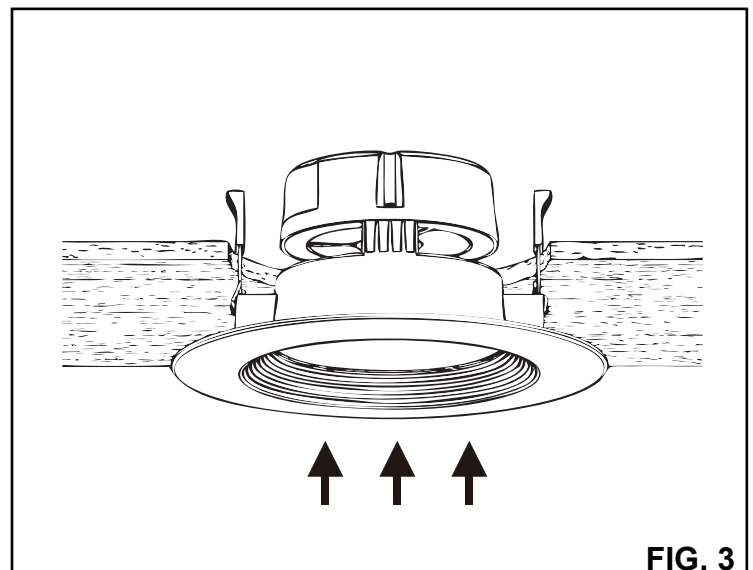

FIG. 3
4. Slide the electrical compartment door (A) up to access the downlight's black (line) and white (neutral) wires.
5. Remove knock-out(s) (B) carefully with a screw driver, install strain reliefs (not included) into the knock-out(s) and insert electrical wires from electrical box through strain relief(s) into downlight's electrical compartment.
6. Connect (push) electrical wires from electric box into the correct inserts using the provided connectors (C). Black (Line) - White (Neutral).
7. Place wires back into the driver housing (D) and snap back the electrical compartment door into place.
8. Slide torsion spring covers (E) onto the ends of the torsion springs (F).
9. Bend back the two torsion springs and fit the fixture in the hole in ceiling. Slowly release unit up to the ceiling and the springs will hold fixture in place (Figure 3).